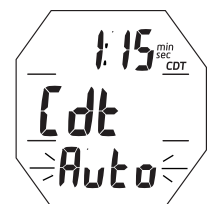
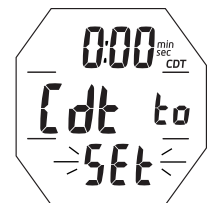

Fig. 25B - CDT SETUP (upon access)
Fig. 25C - CDT SETUP (to access Set)
- A (< 2 sec) - to step forward through selections of OFF, ON, AUTO (Fig. 25B), and SET (Fig. 25C).